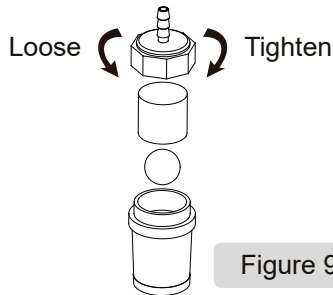

Figure 9
- 2) To ensure the irrigator works reliably and robustly, clean the filter after a period of operation as shown in **Figure 9**, wash every part to clean the desbris.